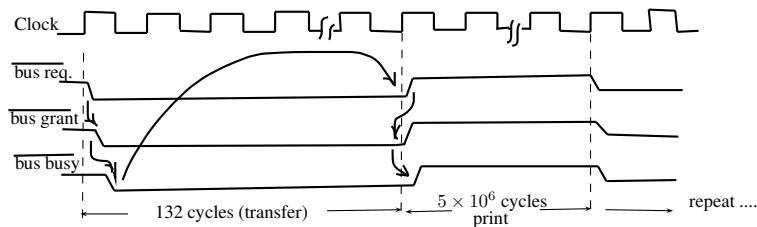

Figure 5: Data transfer and printing with printer.
2. Find the maximum clock frequency at which the counter shown in figure 5 can be operated. Assume that the propagation delay through each flip-flop and AND gate combined is 10 nsec. Also assume that setup time (time to stabilize signal) for the JK flip-flop inputs is negligible. (6)